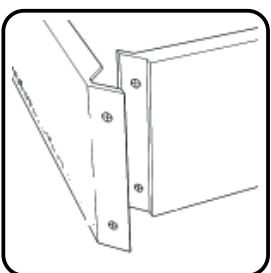

Figure 1
Attach Legs (B) to Side Frames (C) with Flat Washers, Spring Washers and Nuts, tightening nuts only halfway. (See Figures 1 and 2)